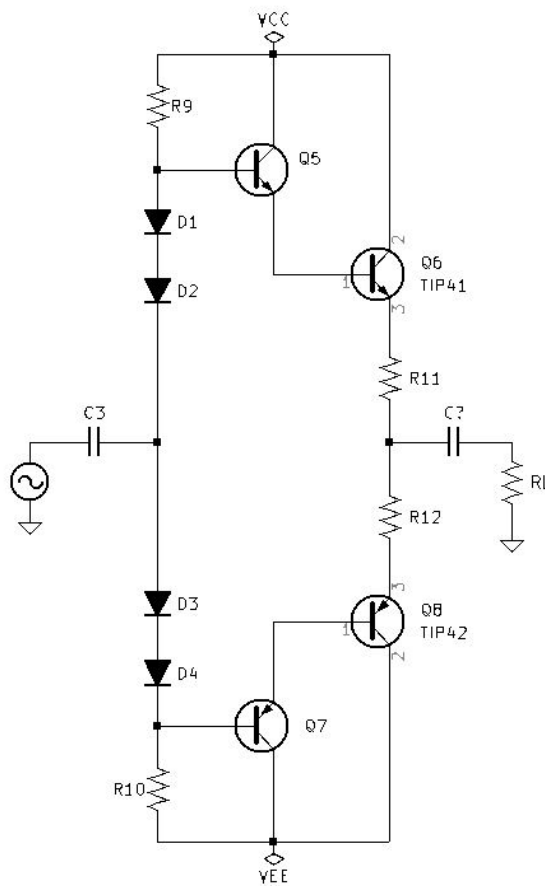

Figure 5.1: Push Pull Amplifier.
1. See Figure 5.1 *Push Pull Amplifier* on page 44.